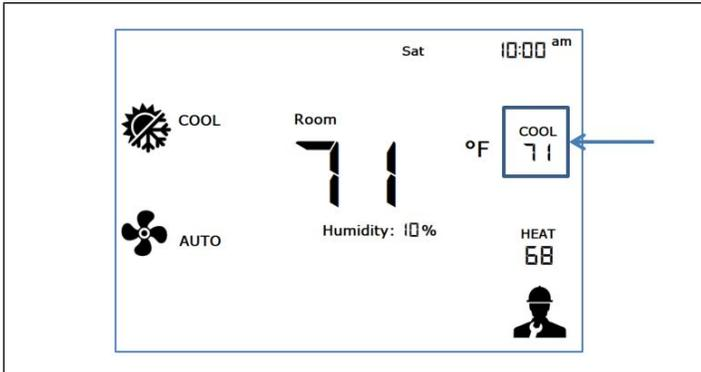
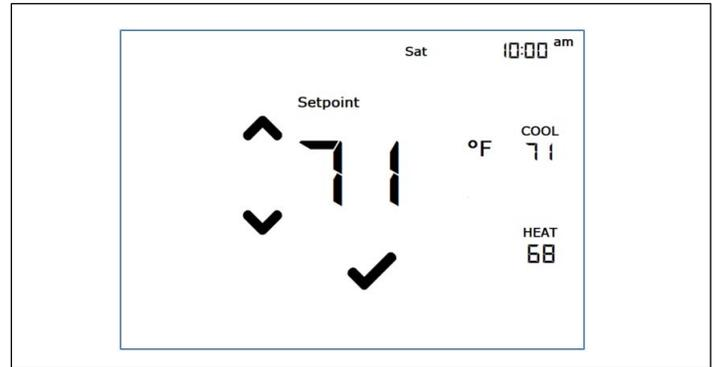

Figure 3-21 - Temperature Setpoint Access
Figure 3-22 - Temperature Setpoint Menu (either COOL or HEAT)
- To access or wake-up the display, press anywhere on the screen (**Figure 3-22**). Control icons will appear on both right and left side of the display. The display will return to backlight off after about 30 seconds of inactivity on the touch display. This backlight off state is essential to avoid important temperature measurement shifts due to thermostat self-heating.
- To change either the heating or cooling setpoint, press the desired setpoint on the right side of the display (either COOL or HEAT, see **Figure 3-21**) and the corresponding setpoint configuration menu will appear with arrows (see **Figure 3-22**).